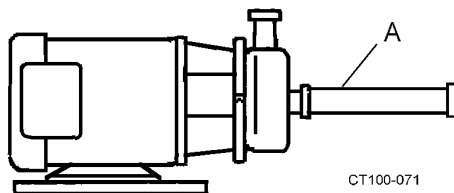

Figure 5 - Straight Pipe Length
- Maintain a straight length of pipe (see Figure 5, item A) at least 8 diameters long at the pump inlet.